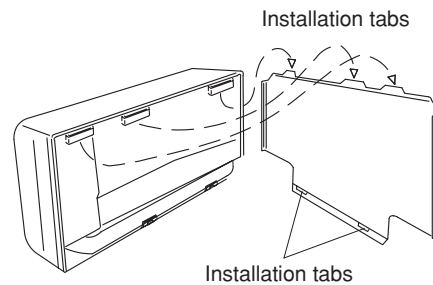

Fig. 3-57
1. When installing the indoor unit, position the indoor unit onto the installation tabs on the upper part of the rear panel. (Fig. 3-57)